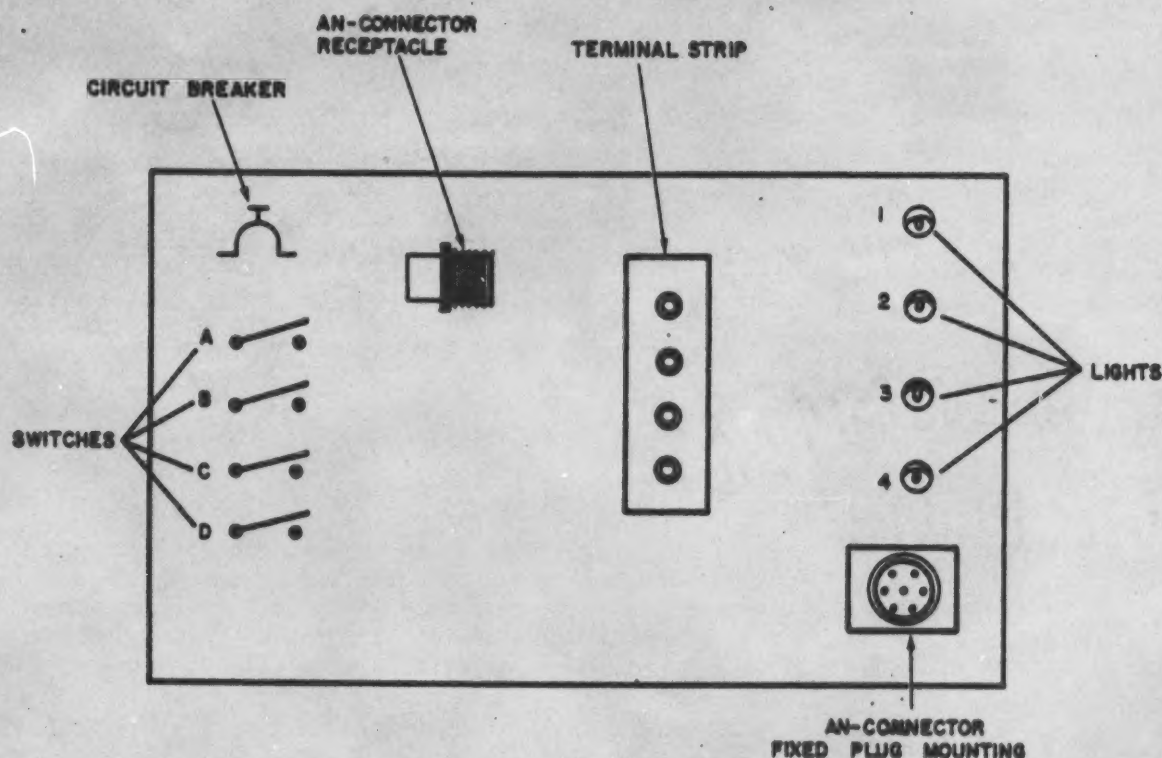
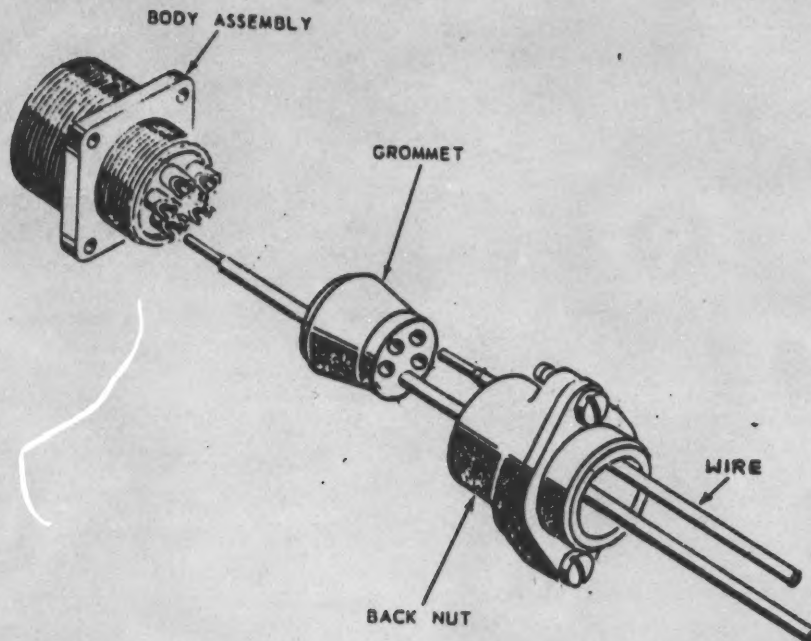

Figure 8. Wire Maintenance Trainer.
Figure 9.
a. Tell the instructor that you are ready to use the wire maintenance trainer (figure 8).
e. Refer to figure 9 and remove the grommet and back nut from the plug of the AN-connector.
k. Refer to figure 9 above. Slide the back nut about half way up the wires putting the tinned ends through first. Now push the tinned ends of the wires through the grommet so that the wires will line up with the pins. Push the grommet up the wires to the point where the one wire is spliced.
o. After the wires have been soldered to the AN-connector, reassemble the plug (see figure 9). Push the grommet down the wires to the body assembly. Push the back nut over the grommet and screw it onto the body assembly. Now remove it from the fixed plug mounting and connect it to the receptacle (see figure 8).
v. Take the AN-connector off the AN-receptacle and put it on the fixed mounting (see figure 8). Disassemble the AN-connector and unsolder the wires. Remove the wires from the back nut and grommet and reassemble the AN-connector.